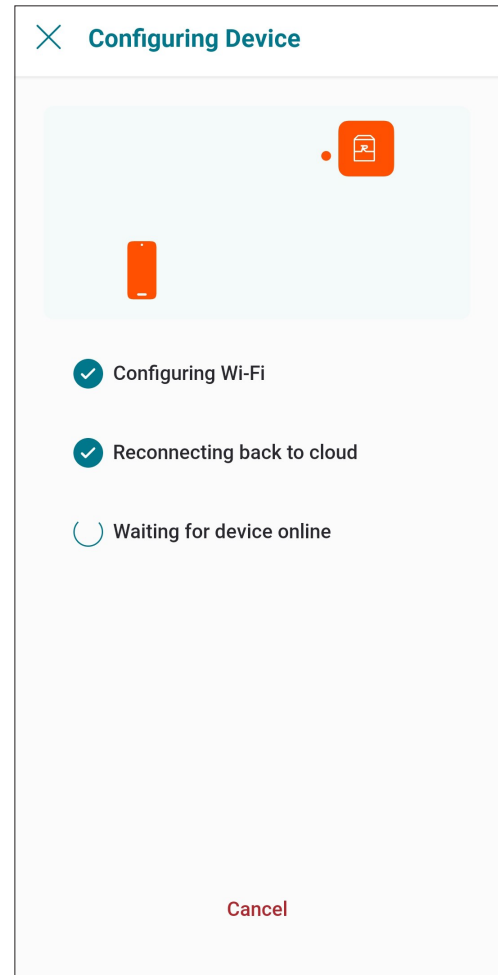

Figure 88. Configuring Device
9. Raymote app will provide the Wi-Fi credentials to your unit. This process may take a few seconds. See **Figure 88**.